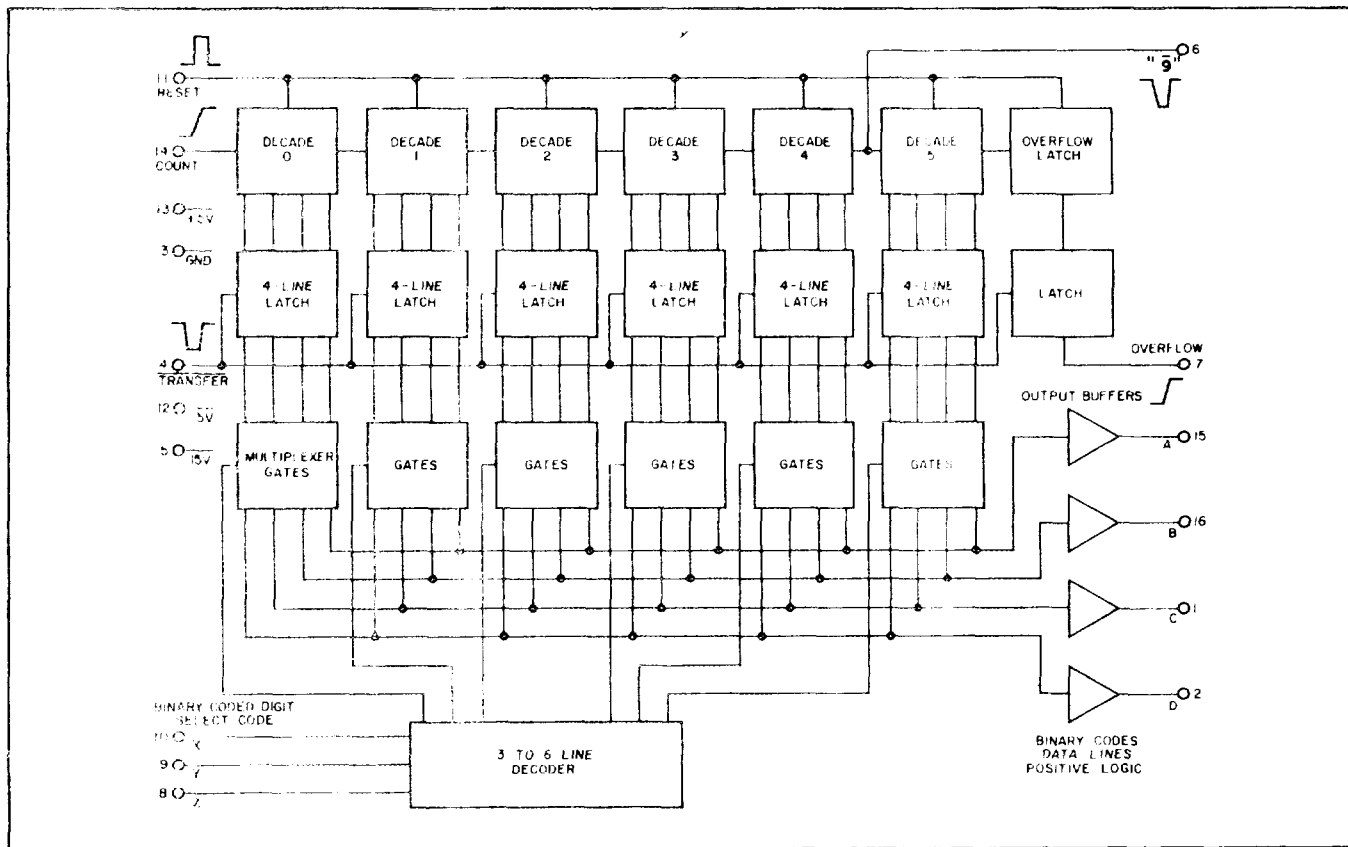

Figure 4-2. A1U1 6-Decade Counter Block Diagram
4-20. The A1U1 counter consists of six decade counting elements, an overflow register, a 25 bit latch, and output multiplexing circuits. Figure 4-2 is a basic block diagram of A1U1. The counter can accumulate and store up to 1 million pulses at its input. The input triggers on the positive-going edge of the input pulse, which is derived from the control circuit, A1U9. The A1U9 input signal is the FI signal from the plug-on. The TRANSFER input at A1U1(1) transfers data from the decade counters to the latch circuits when the TRANSFER line is low. When the TRANSFER line is high, data is stored in the latch circuits. The RESET input at pin 11 resets the decades when the RESET signal is high. One million or more input counts into the counter sets the overflow register, which causes the OVERFLOW output at pin 7 to go high following a TRANSFER signal.